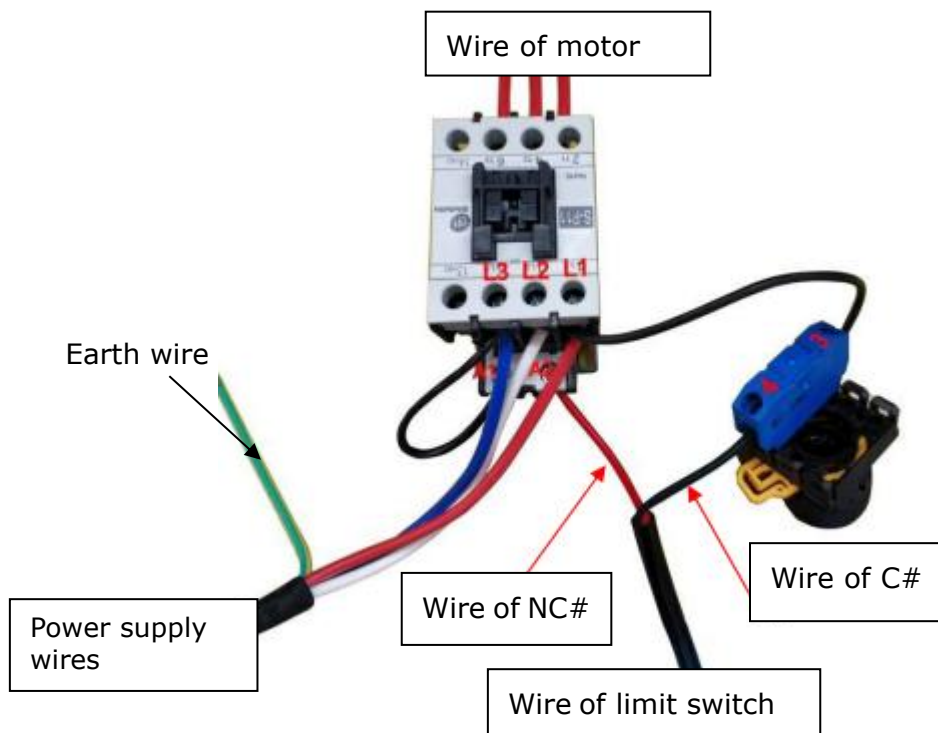

Fig. 43
2. Connection step (See Fig.43)